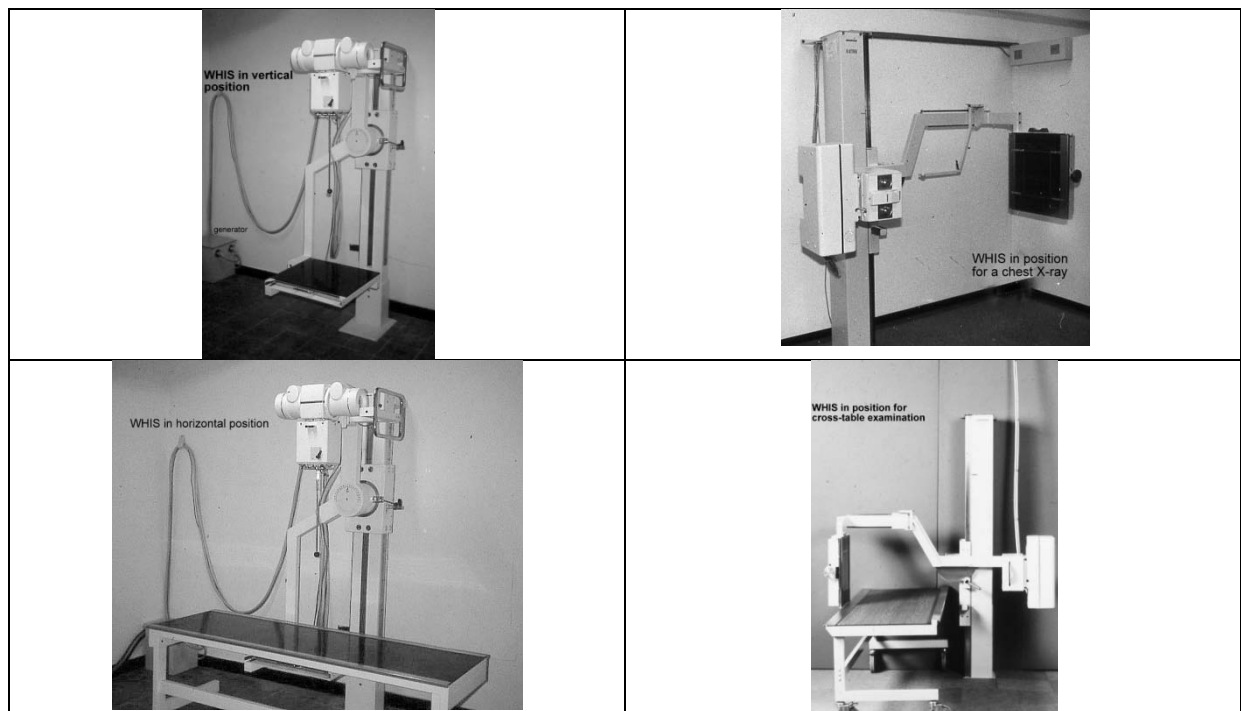

Figure 2: The WHIS-RAD stand in different configurations
DIAGRAM. These are versions of the WHIS-RAD stand shown in figure 2.
The last design (G), described above, a fixed column with a tube on an angulated cross-arm (the "prone question mark" or "S" shaped) moving vertically and rotating on a central axis, is specified by WHO as being the best for small hospitals and clinics (see figure 2). The X-ray tube is held at one end of a long arm and the cassette/receptor holder is exactly opposite, on the other end of the arm. The supporting vertical column must be fixed to the floor and may be steadied by a bracket to the wall or up to the ceiling. A bracket attached to the wall is usually satisfactory. Standing the column only on the floor without lateral or ceiling support is usually not sufficiently rigid unless it has a very wide base (about 1sq.m or 1sq yard) which can be firmly fixed to the floor.
What are the advantages of the WHIS-RAD design? (see figure 2)